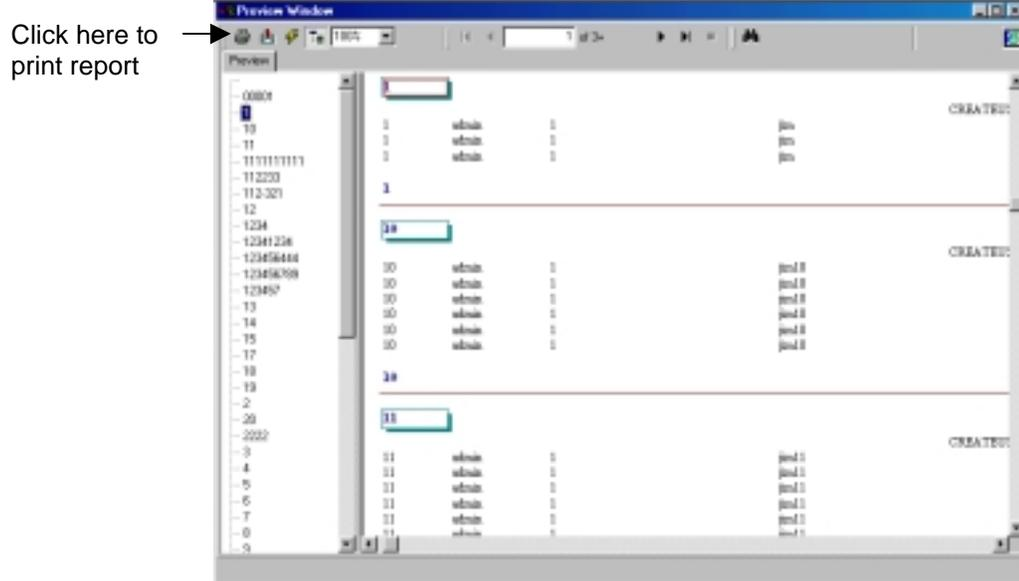

Figure 12.11 Cash Card Report Window
- The report will be generated and appear on your screen. At this time either view it on the screen, or click the printer icon to print the report (Figure 12.11).